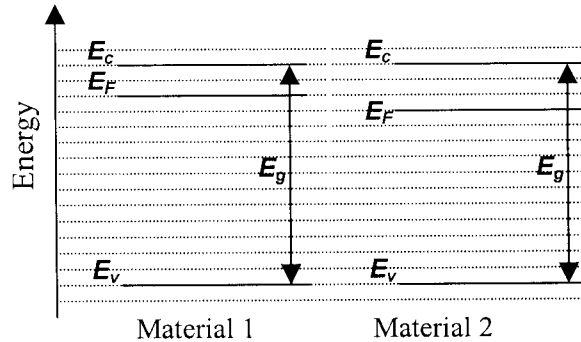

Figure 1: The energy band diagrams of two materials.
- b) Give the relationship (<, > or =) between the density of the free minority carriers in material 1 and material 2 with energy band diagrams given in Figure 1. [4]